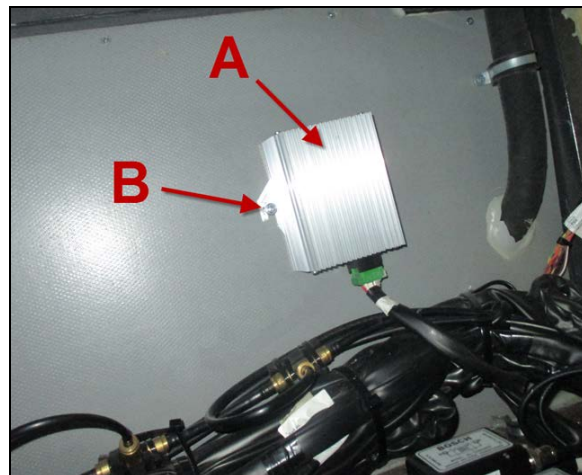

FIGURE 15
24. Install the converter (item A, Figure 15) on the wall with two self-drilling screws (item B, Figure 15).